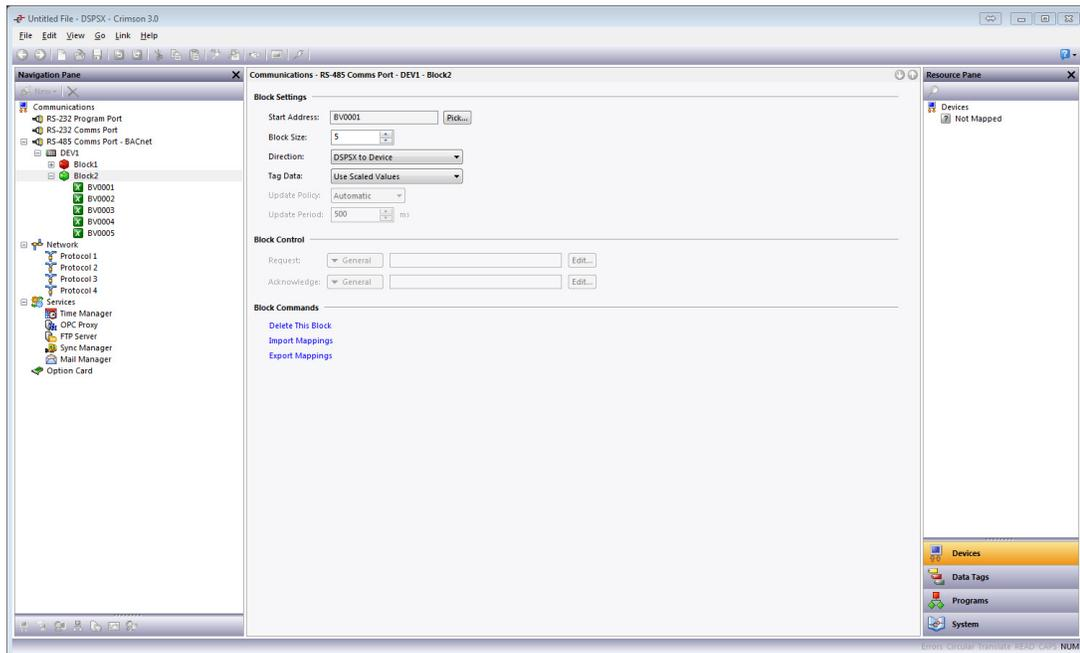

Figure 9.
22. Referring to Figure 9, set the **Block Size**: to the desired number of data points; 5 in this example.